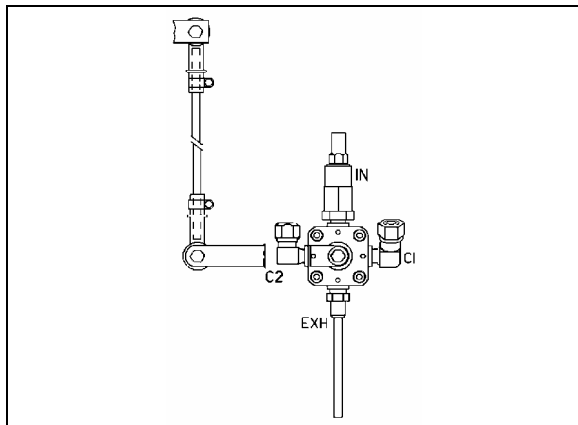

FIGURE 29: FRONT HEIGHT CONTROL VALVE 16100
2. Loosen the clamp on the height control valve rubber coupling and bring it up or down (Fig. 29).